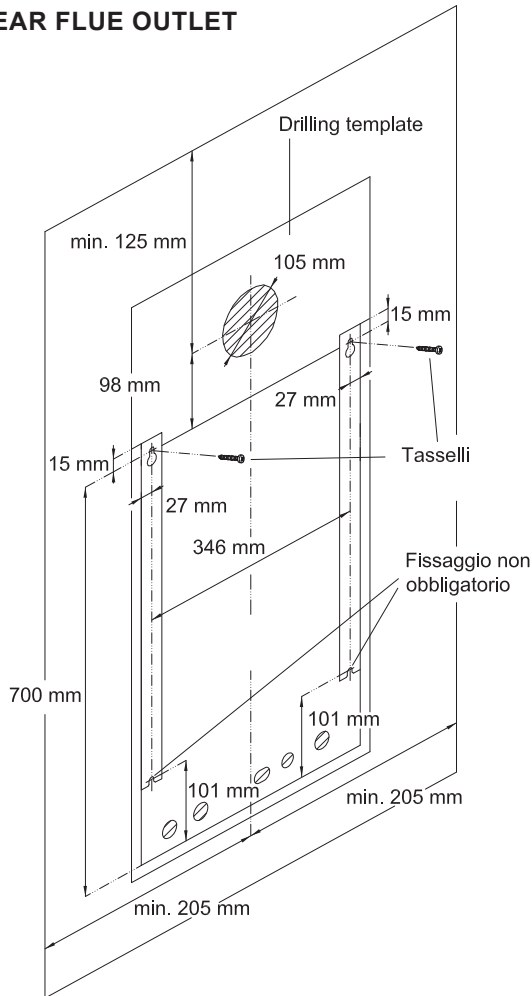

Fig 13
5.8 INSTALLING THE APPLIANCE FOR REAR FLUE OUTLET (Fig. 13, 16, 17, 18). FOR APPLIANCE CLEARANCES SEE SECT. 4.4 AND SECT. 4.10
Use adhesive tape to attach the template to the wall, making sure that the centre line is vertical and that the clearance distance is no less than that shown in fig. 13.
Fit the elbow header into the flue flange on the top of the boiler, positioning it towards the required direction (fig 13).